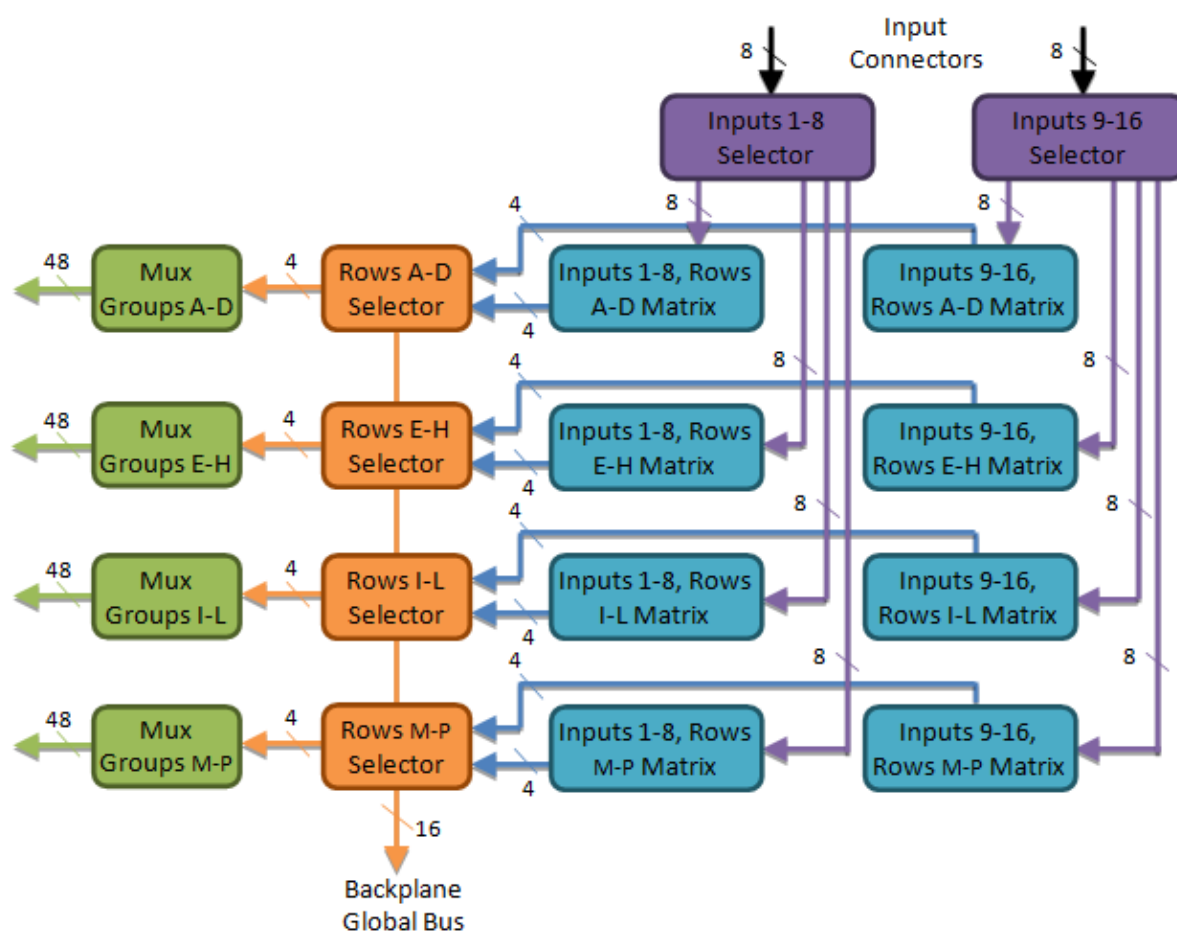

Figure 2-9: Diagram of the Switching Sections of the GX6192
Figure 2-9 describes the switching sections of the GX6192. Each section is shown in a different color.
- The input selector switches an Input channel to one of four groups of rows: A-D, E-H, I-L, M-P. Figure 2-9 includes a logic schematic of an input selector.